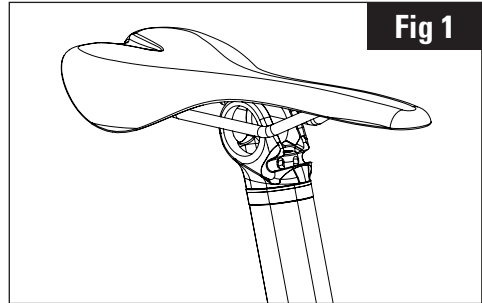

Fig 1
1. Position the saddle on the E-Post 2 EVO, the rails on the outside of the seatpost. (Fig.1)